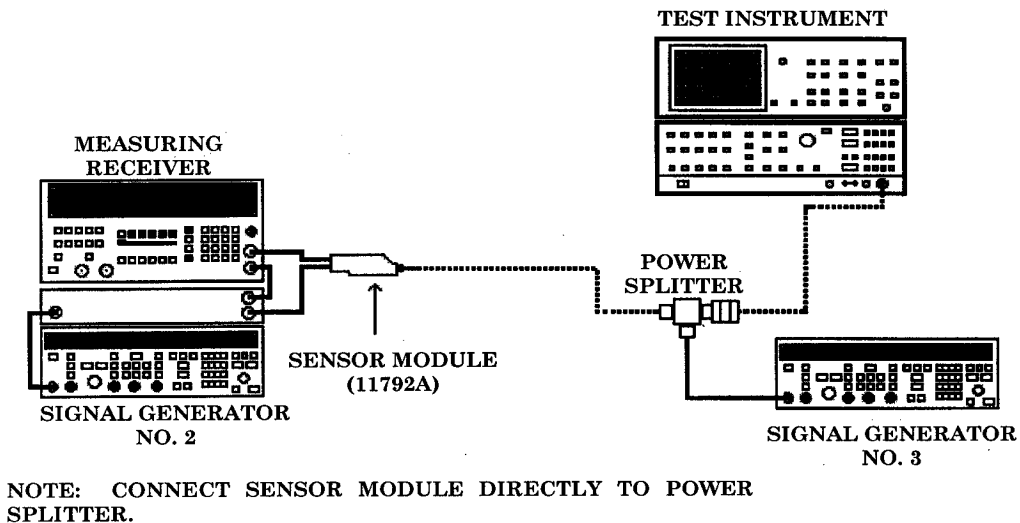

Figure 28. Frequency response connection 2.
- (37) Disconnect signal generator No. 1 **RF OUTPUT** from the power splitter input.
- (38) Connect equipment as shown in figure 28.